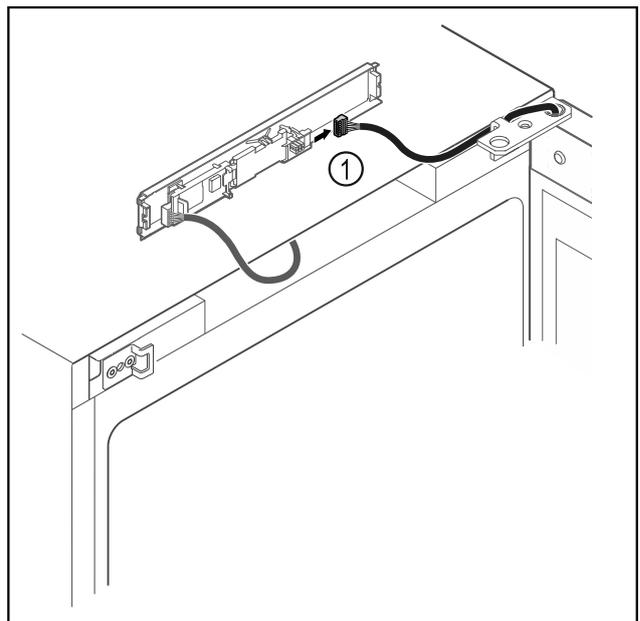

Fig. 6
- ▶ Disconnect the plug Fig. 6 (1) from the circuit board.